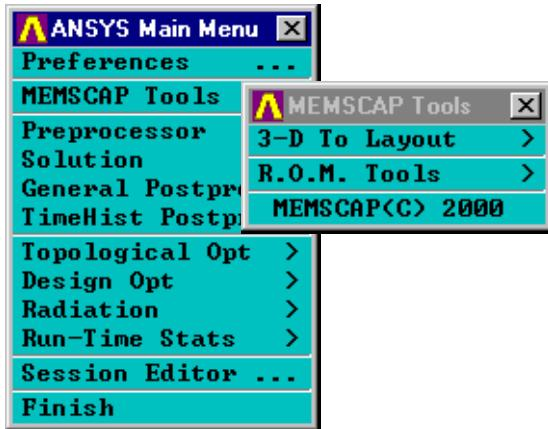

Figure 2: Accessing the **MEMSCAP Tools** menu
- You can access the **3-D to Layout** menu through the ANSYS Main Menu by selecting **MEMSCAP Tools > 3-D to Layout** (Figure 2).